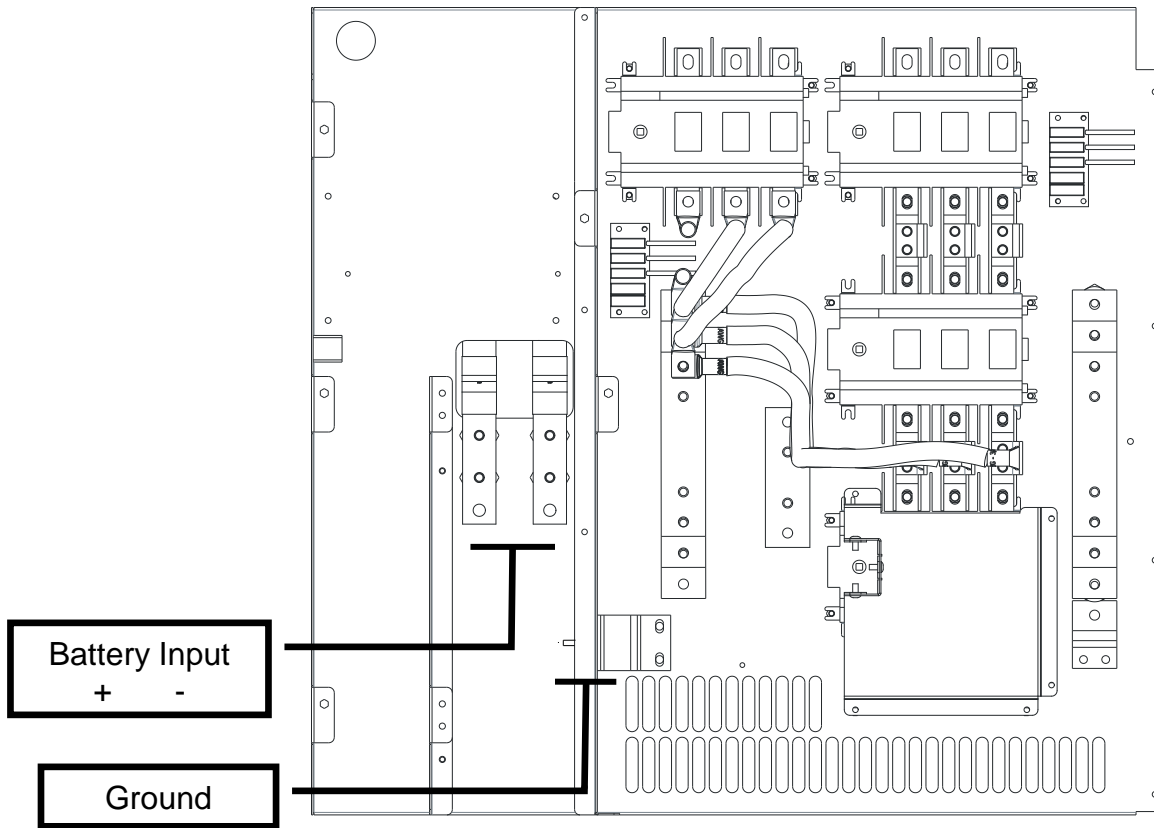

Figure 6 - UPS Connections
5. Before working within the UPS cabinet, verify that the UPS has no power applied. Refer to the UPS manual. Repeat procedures 3 and 4 to the FirstLine P UPS Battery connector located in the right side of the UPS. We recommend that the wires be marked as to which is positive (+) and negative (-) to ensure that the wires are not accidentally crossed. See figure 6.